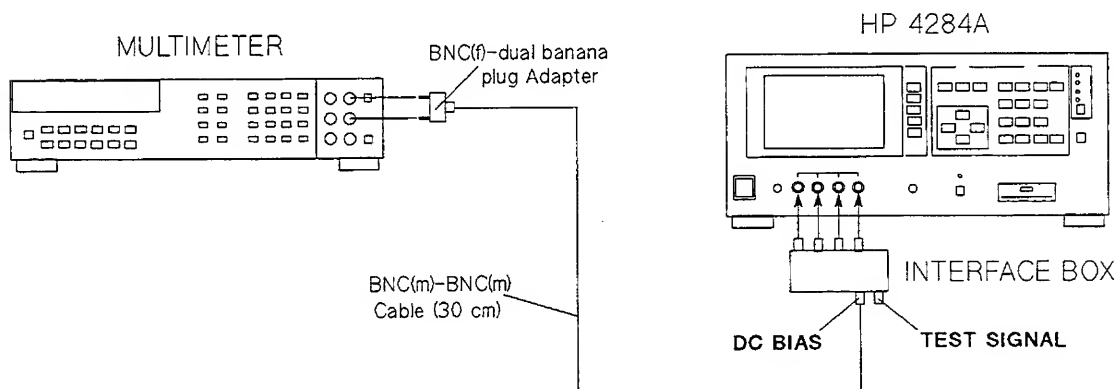

Figure 2-10. DC Bias Level Adjustment Setup
3. Perform the adjustment according to the program's instruction. Figure 2-10 shows the adjustment setup.